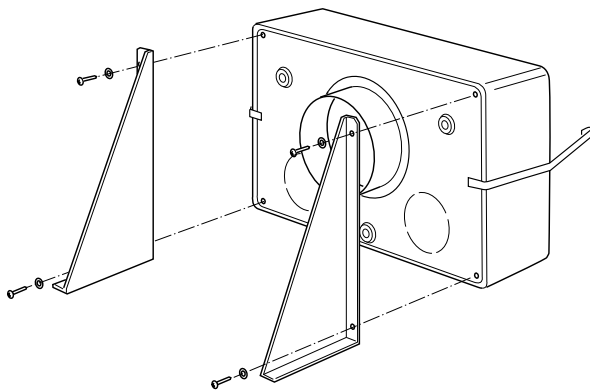

Fig. 5. Fitting the mounting brackets.
- d) Fit the mounting brackets (supplied) to the portion of the case containing the wiring socket, using four self-tapping screws and washers supplied. Fig. 5.